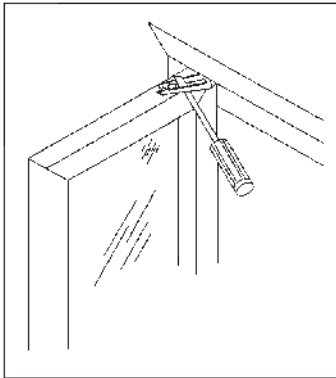

Figure 16
- a. Open the door to just before the detent and insert a screw driver between the legs of the hold open spring, Refer to Figure 16 .